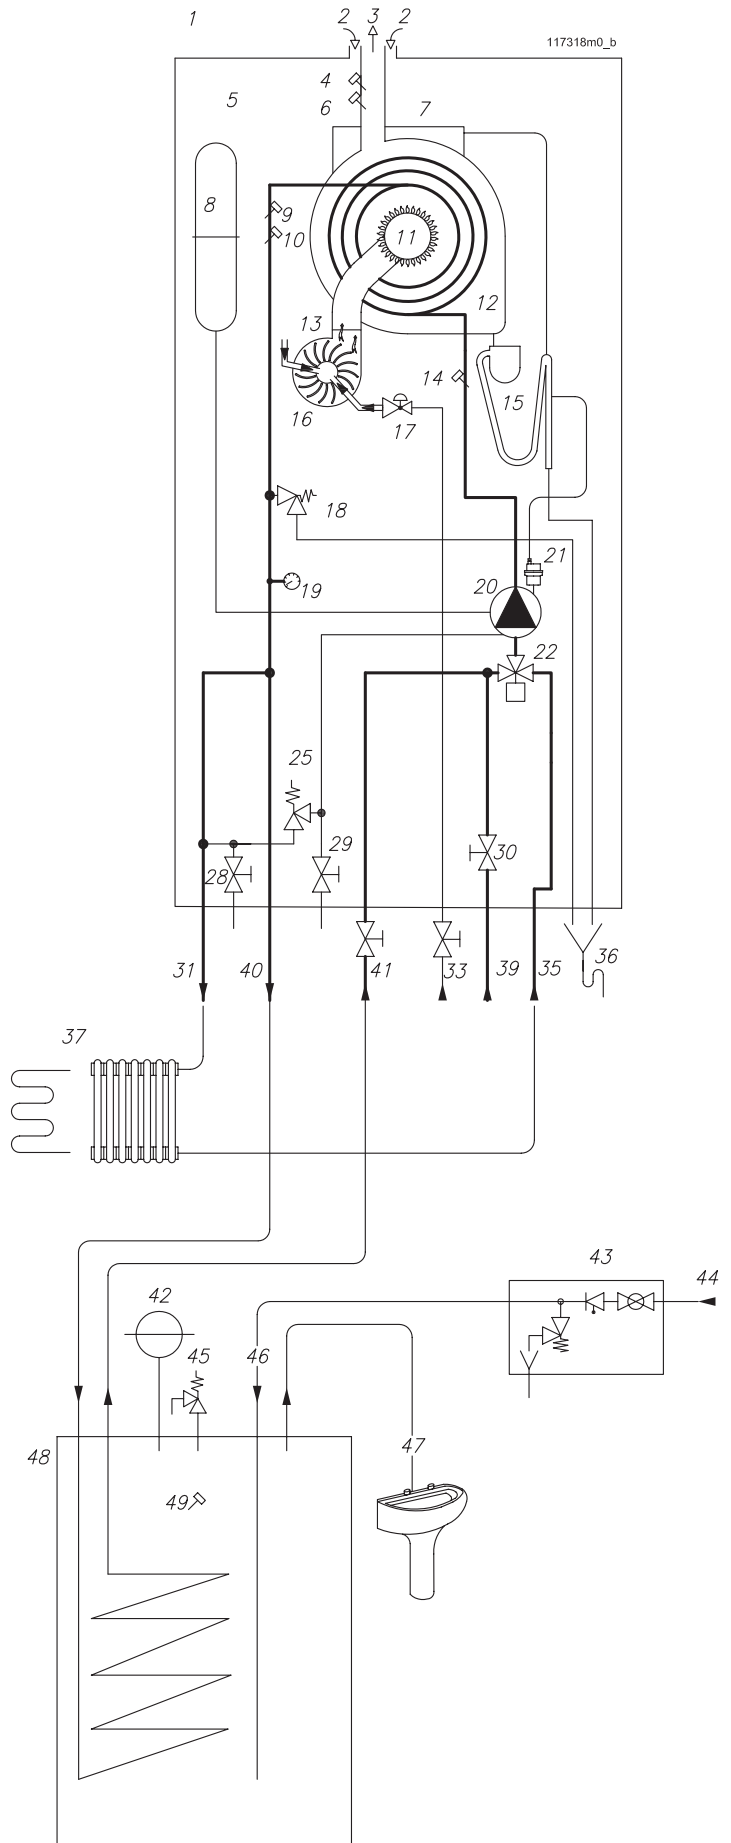

Figure 4.2 - Hydraulic layout
B) - MYDENS -- "B". With this boiler it is possible to realise a plant for the production of domestic hot water via a coil-type storage indirect water heater and a central heating plant with the heating elements operating at a temperature between 30°C and 80°C. An example of this type of plant is given in fig. 4.2.